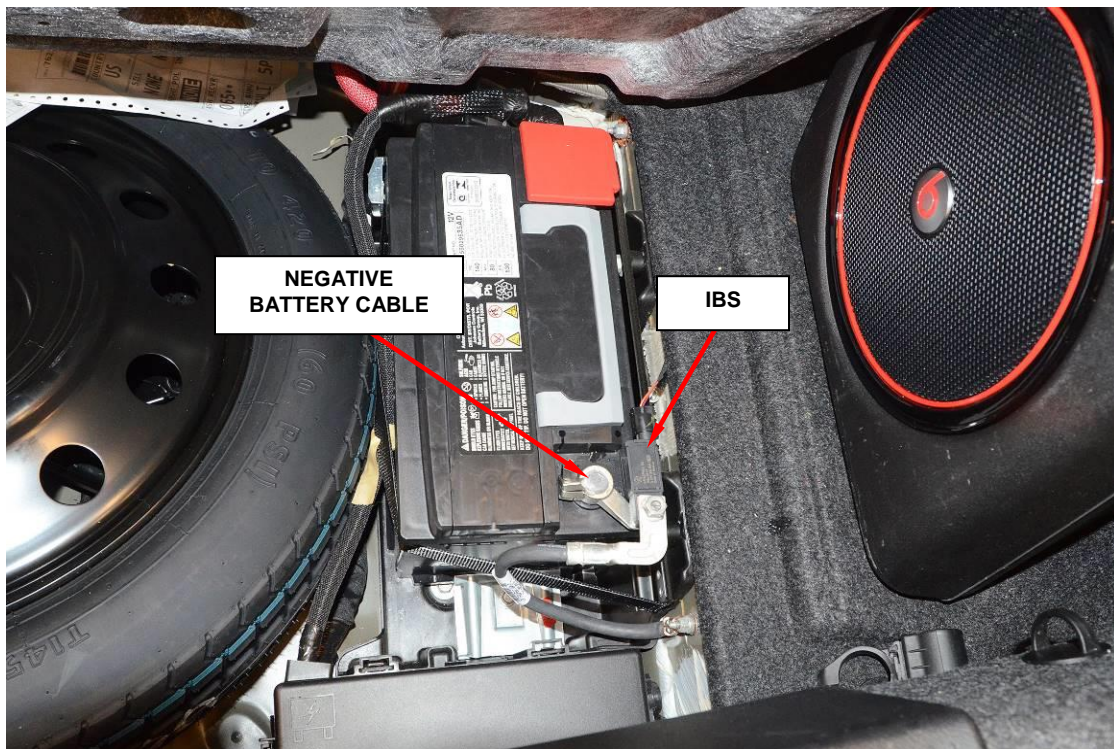

Figure 1 – 12 Volt Battery
2. Disconnect the negative battery cable, if equipped with an Intelligent Battery Sensor (IBS), disconnect the IBS connector to the negative battery (Figure 1).